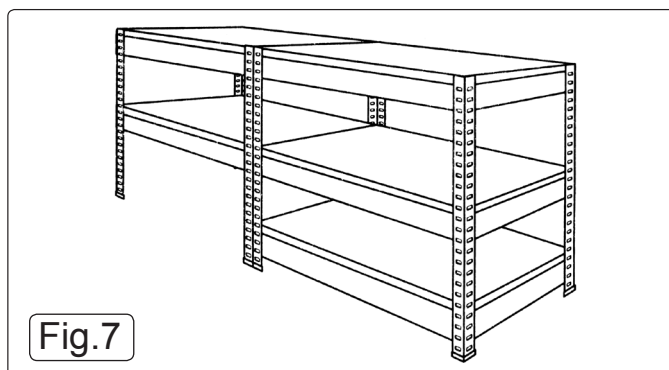

Fig.7
- 4.8 See Fig.7. To assemble as a bench/low level shelving unit make up two separate frames following steps 4.1 to 4.3 but with different shelving positions. Make up one frame with 3 shelves and one frame with two shelves as shown below. Ensure that the middle and top shelves on both frames are at the same height. Fix the frames together with the four nuts and bolts supplied. Place the 5 MDF shelves into position in the frames.